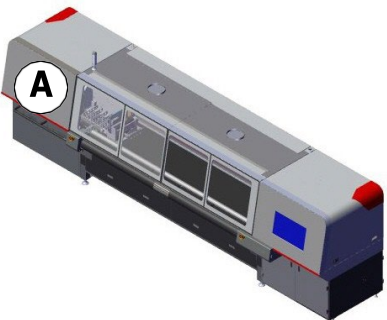

Figure 6-3 Printer Front View
- 2. Open carriage access door, Figure 6-3 location (A), to access the printer carriage. Filters are located on the carriage cover, front and top.